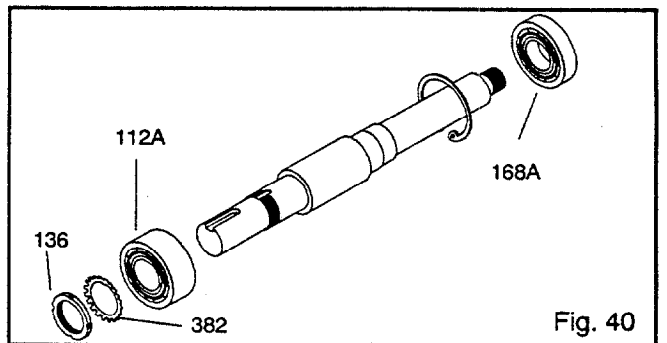

Fig. 40
8. Remove bearing locknut (136) and bearing lock washer (382) (Fig. 40).